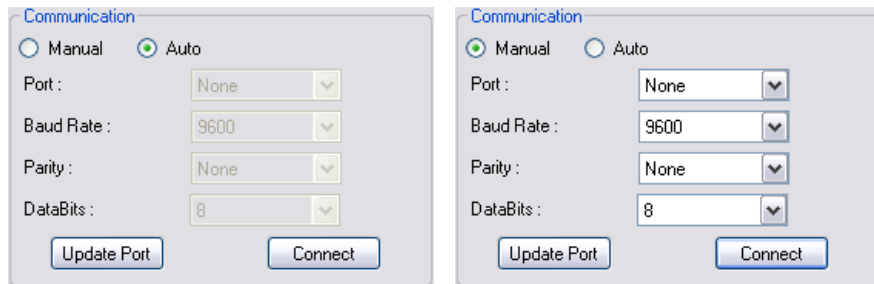

Figure 5 Communication panel
- a Select **Auto** (Figure 5) to allow the Keysight GUI Data Logger to automatically search for a connected LCR meter.
- b Select **Manual** (Figure 5) to manually update the Keysight GUI Data Logger's communication settings.
Match the Baud Rate, Parity, and Data Bits settings (Figure 5) to the settings of the connected LCR meter.